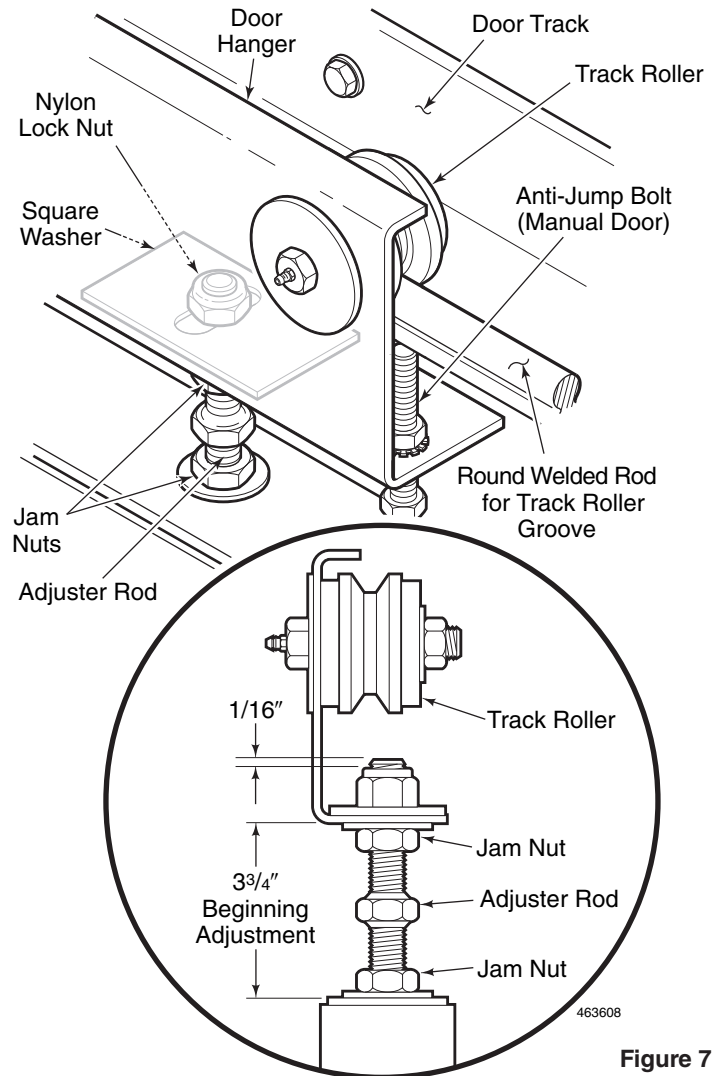
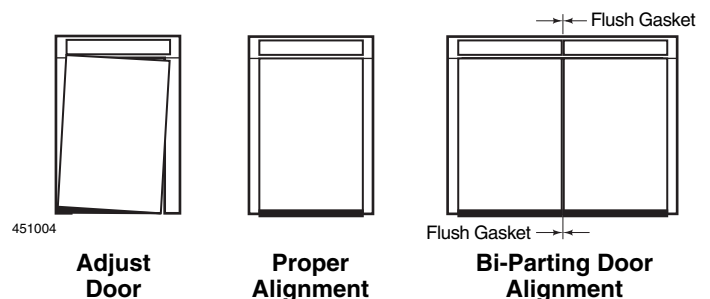

Figure 7
Figure 9
1. Install the Door Hanger on top of the door. Fasten it to the door with the Square Washers, flat washers, Jam Nuts, nylon Lock Nuts, and 3/4" Adjuster Rods. Make sure the Adjuster Rod comes through the nylon Lock Nut on the Square Washer no more than 1/16". Adjust the Door Hanger temporarily to 3-3/4" from the top of the door to the bottom of the Channel. Final adjustment is made after the Door is hanging on the Door Track. See Figure 7.
1. For a single slide door, set the door in the closed position and adjust the door height so the Sweep Gasket lightly touches the floor and the door lines up with the side frames. See Figure 9. To adjust the height, loosen both the top and bottom Jam Nuts and raise or lower the door with the welded nut on the Adjuster Rod. Tighten the Jam Nuts to lock the door in position. See Figure 7.
2. For a bi-parting door, set the doors in the closed position and adjust the door height so the Sweep Gasket lightly touches the floor. Use the Adjuster Rod to align the two door leaf sections for a proper seal where the doors come together. The door leaves should be parallel and have a uniform seal from top to bottom. See Figure 9. To adjust the height, loosen both the top and bottom Jam Nuts and raise or lower the door leaf with the Adjuster Rod. Tighten the Jam Nuts to lock the door in position. See Figure 7.